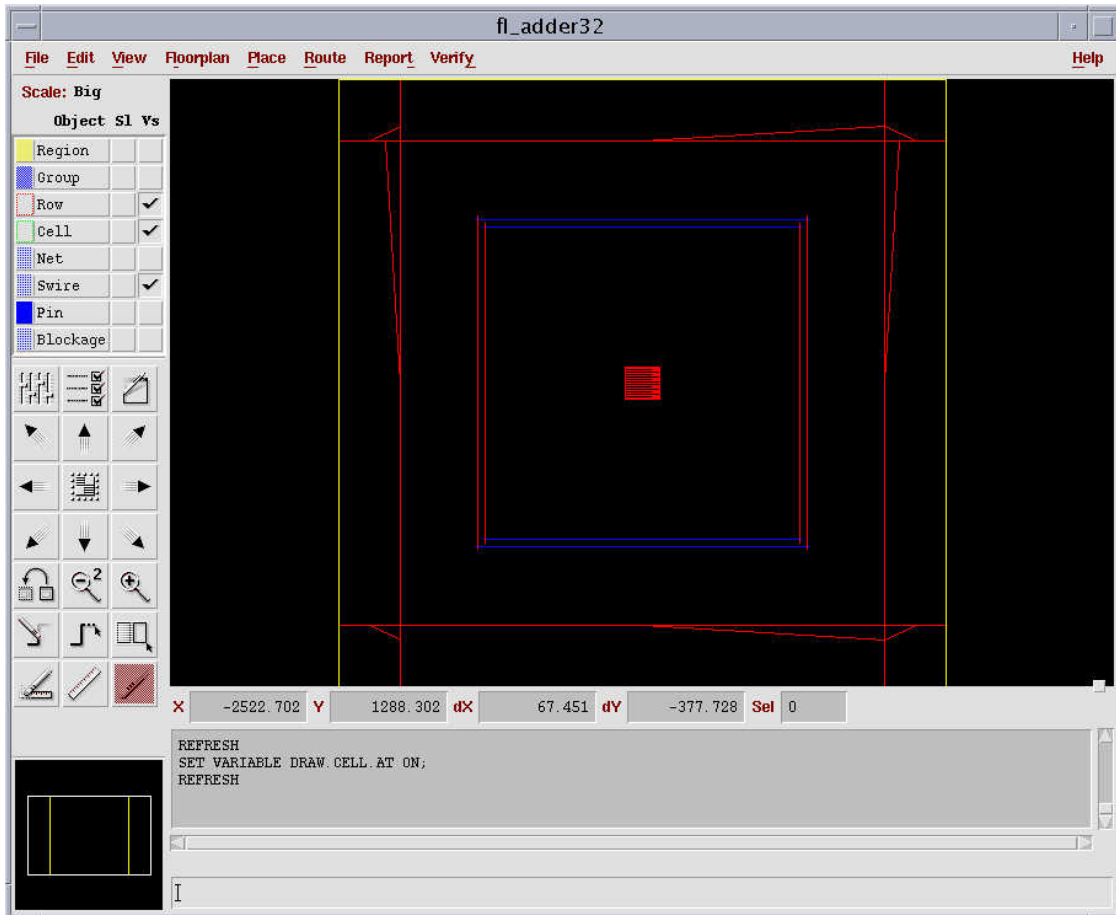

Figure 7-19 Design with power rings.
1. Choose **Route→Create Ring...**, and the **Create Ring** form appears. Set the form as figure 7-18 and click on **Ok**. The design with power rings (vdd! and gnd!) appears as figure 7-19.